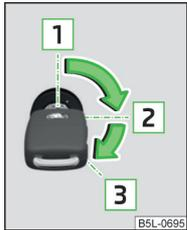

Fig. 125
Positions of the vehicle key in the ignition lock » Fig. 125
- › Turn key to position **1** » Fig. 125 on page 132.